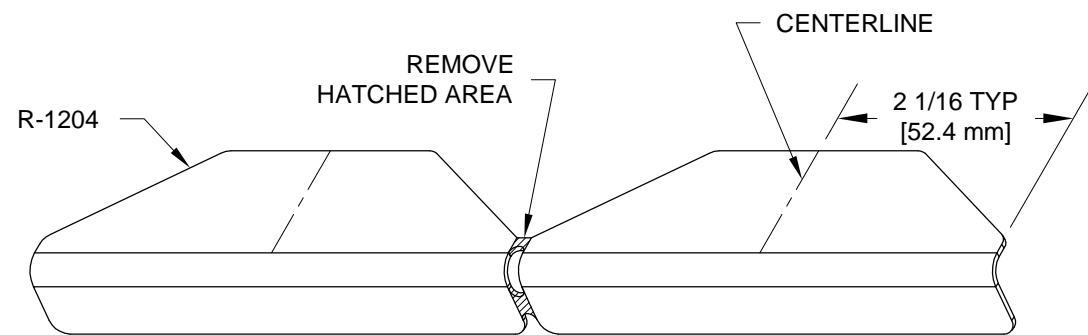

FIGURE 1: SPAR CAP PREPARATION
Step 2: Separate the R-1204 Spar Caps by removing the material shown hatched in Figure 1.